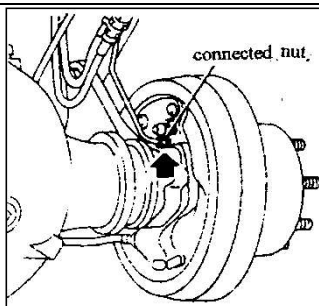

Fig. 1-3
- (1) Raise front end of forklift truck and support frame with wooden blocks.
- (2) Remove mast assemblies.
- (3) Slightly raise axle with a hoist and place wooden blocks under differential gear carrier and transmission case.
- (4) After placing a pan under axle case, loosen oil plug, drain oil from axle case.
- (5) Disconnect brake nuts from left and right cylinders. (see Figure 1-3).